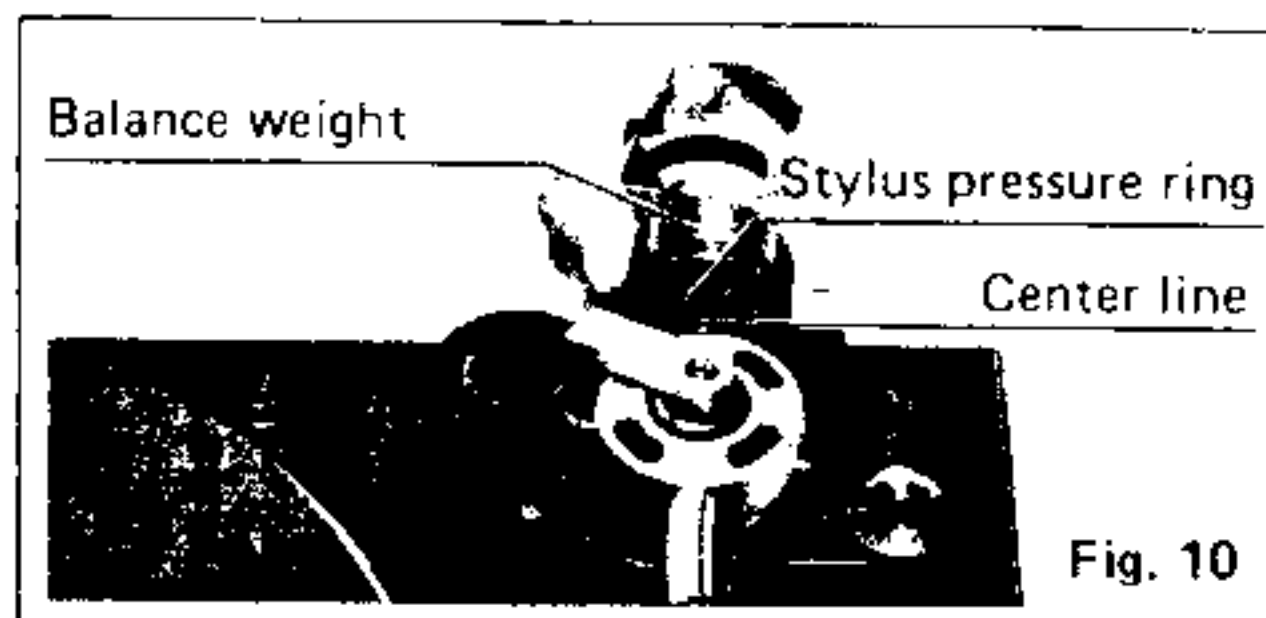

Fig. 10
- ⑥ After adjusting the horizontal balance, turn the balance weight clockwise in the direction of the arrow and align the correct stylus pressure. (Follow the cartridge manufacturer's recommendation.) (See Fig. 10).